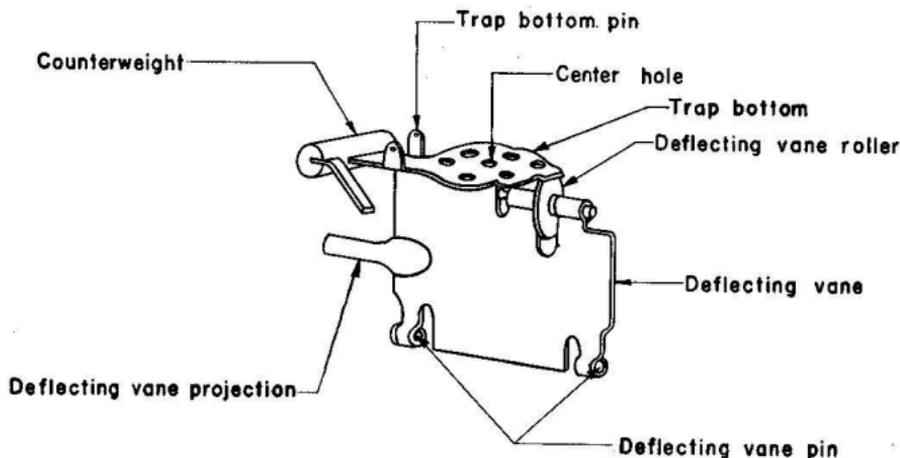
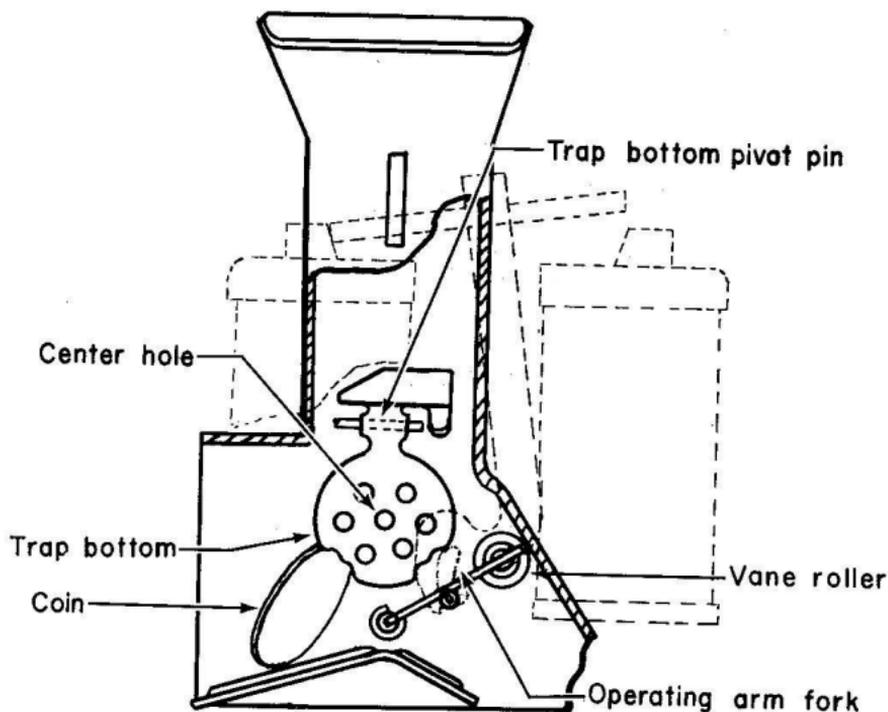
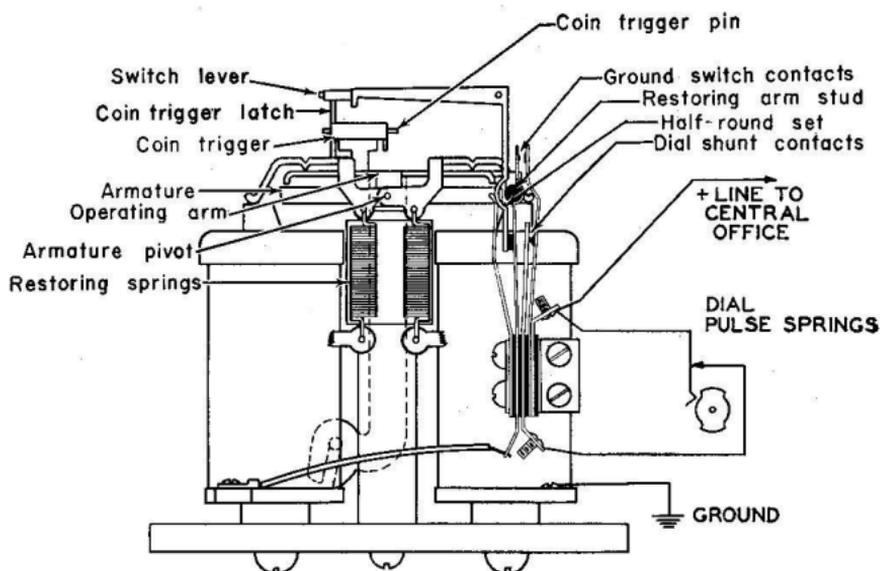
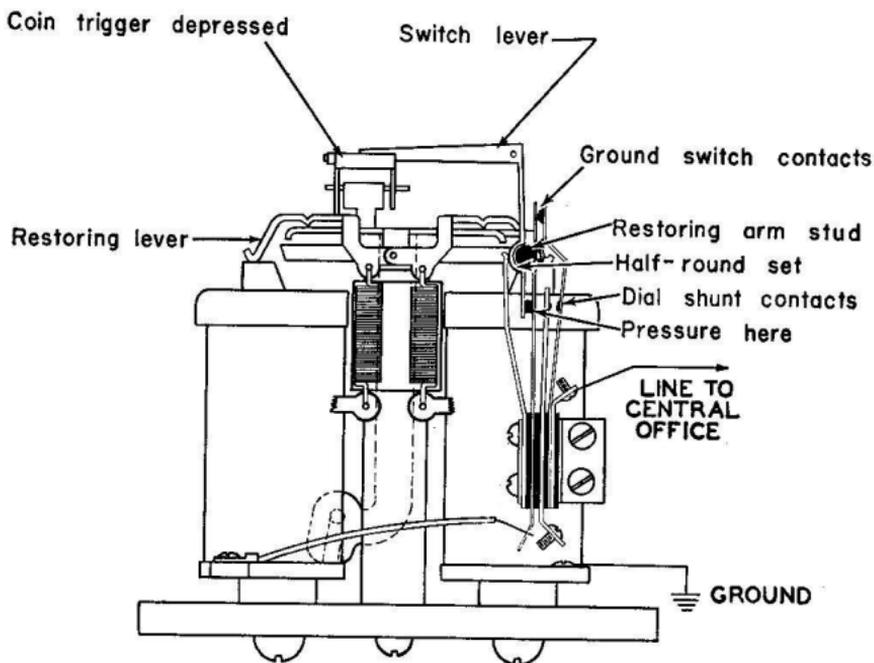

Figure 9.
Figure 13. Refund.
Figure 16.
Figure 17.
4.5 Coin-control mechanism. The coin hopper and its action are illustrated in figures 8, 9, 10, 11, 12, 13, and 14. Figure 8 is a front view of the coin hopper. Figure 9 shows the internal mechanism of the coin hopper with the housing removed. Figure 10 shows a coin just entering the coin hopper mouth. Figure 11 shows the coin trigger still set before a coin has dropped down. Figure 12 shows the coin trigger tripped. Figure 13 shows refund, and figure 14 shows collection. As the coin leaves the coin chute, it enters the coin-hopper mouth (figure 10), and falls down, tripping the coin trigger (figure 12) and comes to rest on the trap bottom (figure 9).
current sent from the central office. The fork in moving to left or right carries the projection of the deflecting vane with it and as the projection is part of the deflecting vane, the vane must also move to the left or right. As the deflecting vane moves under the direction of the fork, the roller moves from beneath the trap bottom (see figure 13). The weight of the coin overcomes the weight of the counterweight (see figure 9) and therefore the trap bottom will fall down pivoting on its pin, the coin slides off the trap bottom and is deflected by the deflecting vane to the left or right. In the case of figure 13 it is deflected to the left into the cash refund compartment. Figure 14 shows the result of a completed call, the operating
arm fork is caused to move to the left carrying the vane to the left and therefore the coin is deflected into the cash compartment. The polarity $+110$ volts d.c. or -110 volts d.c. placed on the line by central-office equipment controls collection or refund of the coin. On an unanswered call, after the calling party hangs up, -110 volts d.c. placed on the line by central-office equipment operates the coin relay. The operating arm moves to the right and positions the deflecting vane to deflect the coins into the refund compartment (figure 13). In the case of a completed call, after calling party hangs up, $+110$ volts d.c. placed on line by central-office equipment operates the coin relay to move the operating arm to the left and positions the deflect-
ing vane to deflect the coin into the cash compartment (figure 14). After the coin has dropped, the counterweight of the trap bottom will return the trap bottom to the horizontal position and as the coin control current is switched off the deflecting vane will return to the vertical as in figure 9 so that when another coin is dropped for another call the trap bottom will remain in position holding the coin until such time as the coin or coins are to be disposed of.
in the center and on top of the coils and magnet. In this way the armature can be made to rock on its pivot to either side as required simply by reversing the polarity of the direct current which is connected to the coils. This action governs the refund or collection of the coins. The relay is connected to a 110-volt source at the central office. Figures 16, 17, 18, and 19 show the various parts of the coin relay. Situated on the top of the armature is the operating arm assembly pivoted in the center. It consists of the fork which engages with the projection of the deflecting vane (figures 13 and 14), the horizontal portion which is in contact with the armature (figure 14), and
the restoring arm (figures 16 and 20) which carries the stud that operates the ground-switch springs. Above the operating arm are the restoring levers (figures 17 and 20) pivoted on the same pivot as the operating arm and armature. The restoring levers are in contact with the operating arm and are also connected to the restoring springs (figure 14) which hold the restoring levers down under tension. These restoring levers ensure that when the direct current is switched off to the coils the operating arm will return to the level horizontal position. Also mounted on the coin relay is the
switch lever which is pivoted on the coin relay frame (figures 15, 17, and 20). One end of the switch lever rests on the latch of the coin trigger (figures 16 and 11), the other end has a half round set in it which allows the stud of the restoring arm to restore the switch lever when required (figure 16). Also mounted on the coin relay frame is the coin trigger which is also pivoted (figure 11). The coin trigger is unbalanced in such a way that, if free, it will return to the horizontal position of its own accord. The tip of the coin trigger protrudes right through the slot in the front and rear of the coin hopper (figure 11); therefore, it is impossible for a coin to drop through the coin hopper without tripping the trigger.
4.7 **Operation of the coin relay.** Figure 16 shows the relay
and ground switch springs in position before any coins have been deposited. Notice the switch lever resting on top of the latch of the coin trigger (figures 16 and 11) and at the same time observe the position of the other end of the switch lever with the half round set and the stud on the restoring arm. Also, notice that the ground switch spring with the half round set is bearing up against the stud. The ground switch contacts are open and the dial shunt contacts are closed preventing pulses from the dial being sent to the central office. In figures 17 and 12, a coin has been deposited into the coin chute and it has dropped into the coin hopper, and on its way down the hopper has tripped the coin trigger; the trigger has been forced downwards and the latch has moved away from the switch lever, allowing the switch lever to drop slightly. As the switch lever has dropped slightly it prevents the coin trigger from returning to the horizontal position because the latch of the
coin trigger is now butting up against the switch lever (figure 12). Referring back to figure 17 note the position of the stud, switch lever, and contacts. The end of the switch lever with the half round set has been allowed to move slightly to the right and the ground switch contacts are now closed and the pressure on the outside spring of the ground switch has opened the dial shunt contacts, and the stud is still in the center. The dial can now send pulses *unless* the coin dropped was a first nickel; in this case the micro-switch has placed a shunt across the dial still preventing pulses from being sent to the central office until the second nickel has been deposited and the shunt of the microswitch has been removed from
sets in the switch lever and the ground switch spring. The stud in riding up has forced the switch lever to the left against the spring tension and being at a right-angle the other end of the switch lever has moved upwards away from the latch of the coin trigger (figure 9) thereby allowing the coin trigger to regain its horizontal position. Also the movement of the stud out of the area of the 2 half round sets has ensured that the ground switch spring contacts will remain closed throughout the operation due to exerting pressure on both springs. When the "Neg" 110 volts is removed from the +line, the position of the relay will be as in figure 16 with the switch lever resting on the projection of the coin trigger, holding the ground switch contacts open and the dial shunt contacts closed. In figure
1. Switch-lever arm with half-round set (see figure 16)